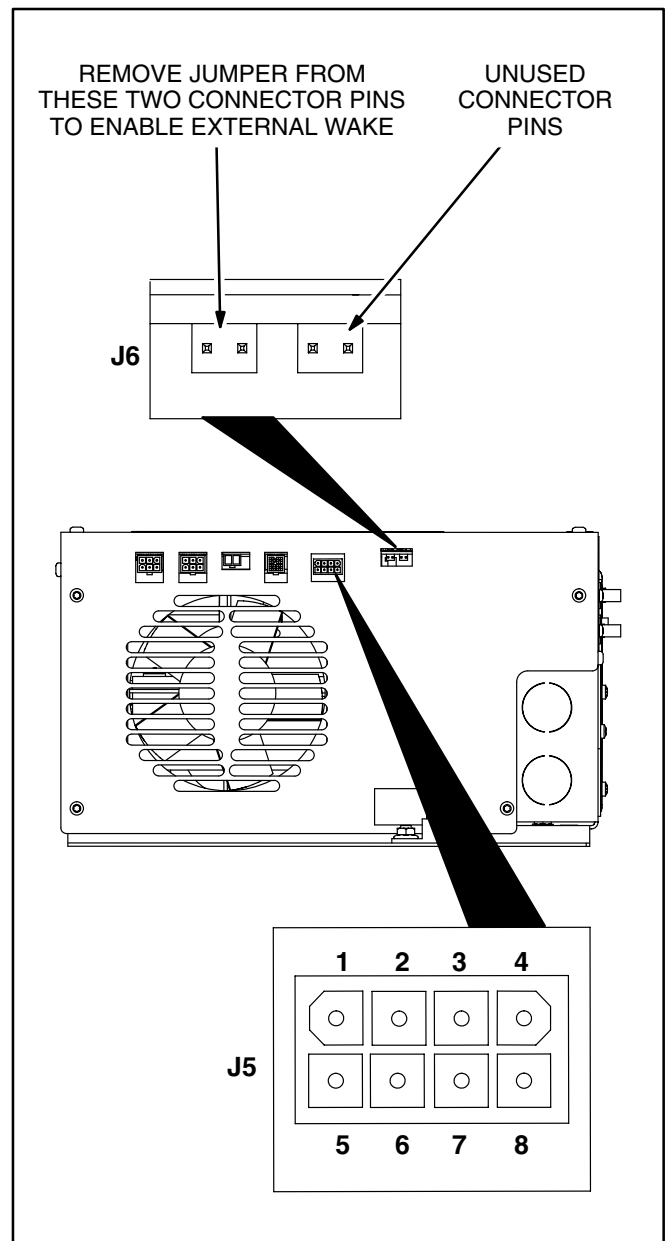

FIGURE 34. EXTERNAL WAKE JUMPER ON CONNECTOR J6
1. Remove the jumper across the left two pins of connector **J6** (Figure 34).